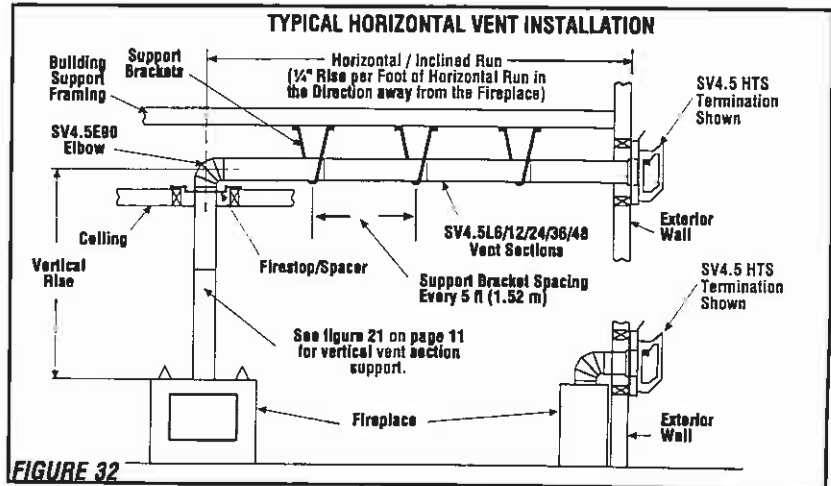

FIGURE 32
Figure 32, and Figures 36 to 43 on pages 17, 18 and 19 and their associated Horizontal Vent Table illustrate the various horizontal venting configurations that are possible for use with these appliances. Secure Vent pipe applications are shown in these figures; Secure Flex pipe may also be used. A Horizontal Vent Table summarizes each system's minimum and maximum vertical and horizontal length values that can be used to design and install the vent components in a variety of applications.
**I. Continue installation of horizontal/inclined sections -** Continue with the installation of the straight vent sections in horizontal/inclined run as described in Step E. Install support straps every 5 ft. (1.52 m) along horizontal/inclined vent runs using conventional plumber's tape. See Figure 32. It is very important that the horizontal/inclined run be maintained in a straight (no dips) and slightly elevated plane in a direction away from the fireplace of 1/4" rise per foot (20 mm per meter) of horizontal vent. Use a carpenter's level to measure from a constant surface and adjust the support straps as necessary. It is important to maintain the required clearances to combustibles: 1" (25 mm) at all sides for all vertical runs; and 3" (76 mm) at the top, 1" (25 mm) at sides, and 1" (25 mm) at the bottom for all horizontal/inclined runs